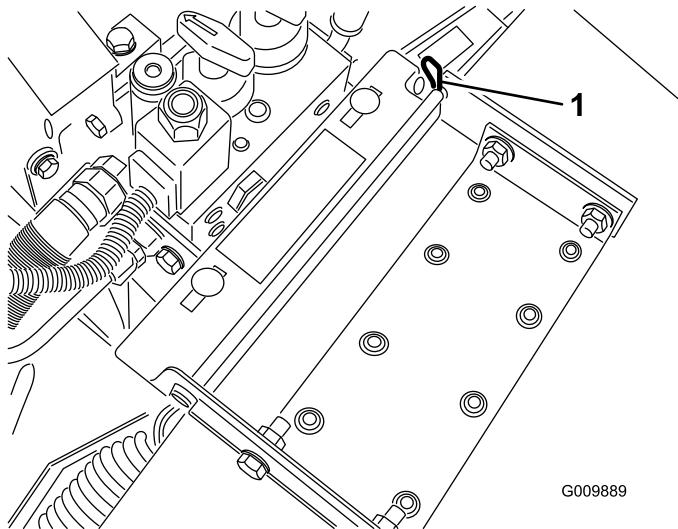

Figure 36
2. Remove the cotter pin securing the hood pivot to the mounting brackets (Figure 36).